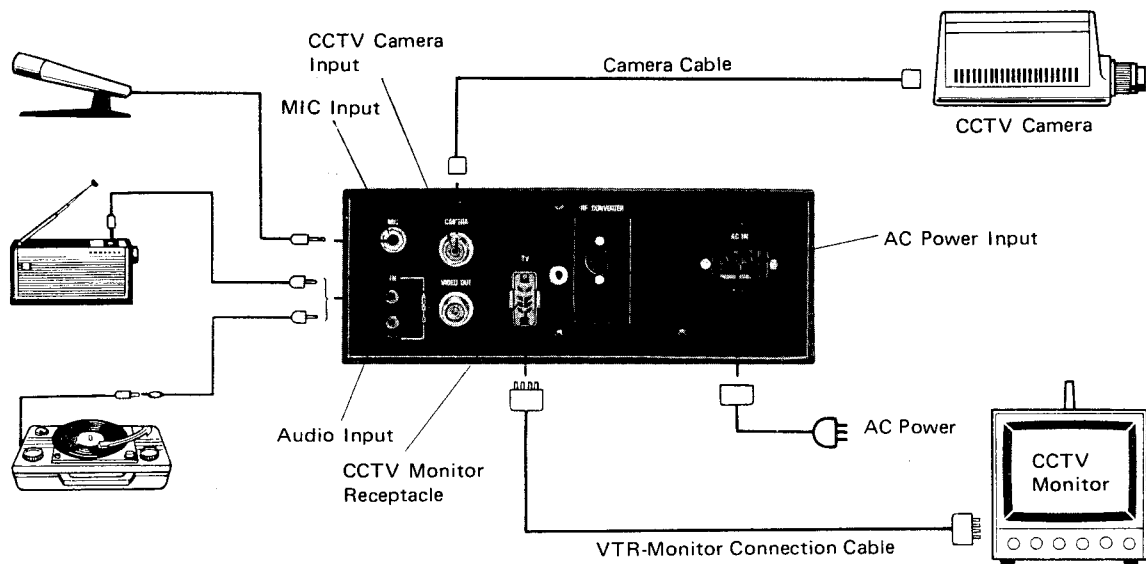

Fig. 16
1. Connect the recorder, the CCTV camera and the CCTV monitor as shown in Fig. 16.
2. Turn on the recorder, and the Pilot Lamp in the Audio Level Meter ⑪ will light up.
3. Slide the TV/Camera Selector ⑳ to the CAMERA side.
5. For simultaneous audio recording, connect a microphone to the Mic Input Jack ⑫, or an audio tape recorder or a record player to the Audio Input Jack ⑬.